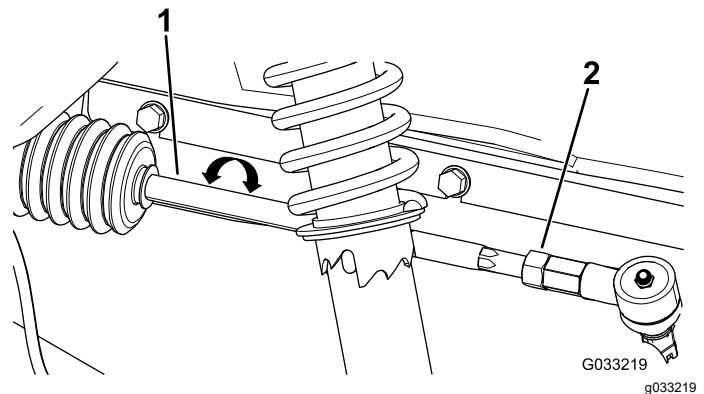

Figure 44
3. If the measurement does not fall within 0 to 6 mm (0 to 1/4 inch), loosen the jam nuts at the outer end of the tie rods (Figure 44).